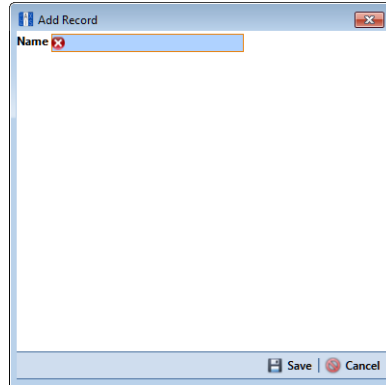

Figure 7-153. Add Record Dialog Box
- 8 In the *Add Record* dialog box (Figure 7-153) type a name for the record. Fields requiring information include a  icon. You must enter information in the required fields before the record will be added.